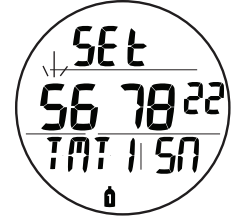

Fig. 68 - SET TMT 1 SN
**Set TMT 1 SN** (Link Code), information includes (Fig. 68):